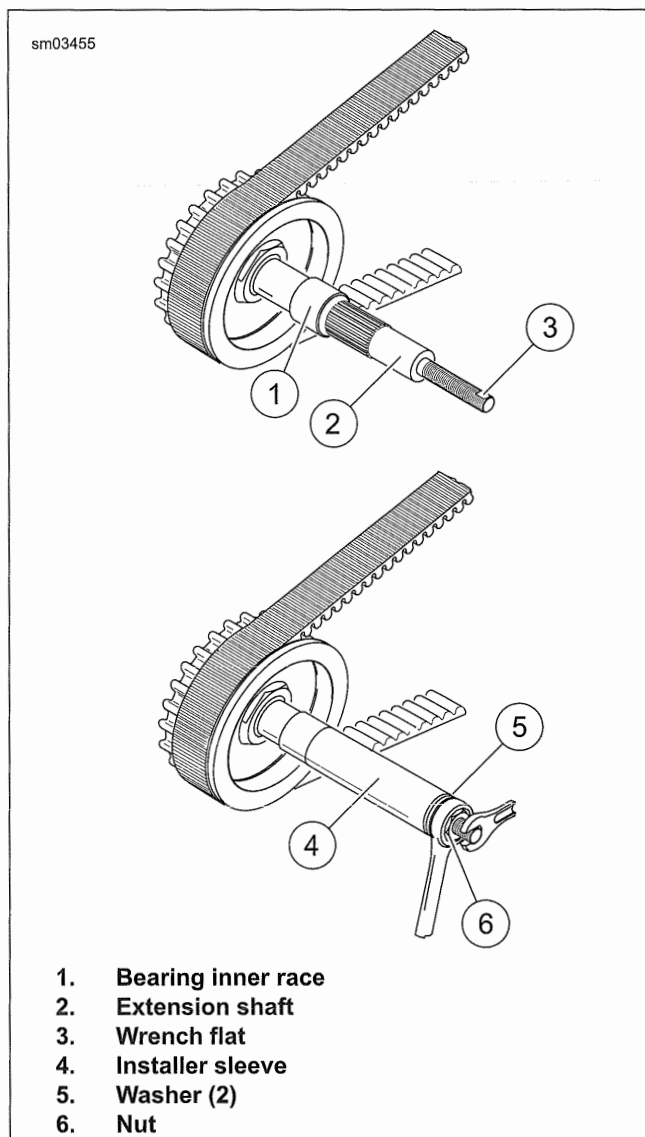

Figure 5-32. Installing Bearing Race
1. See Figure 5-32. Install bearing inner race (1) onto mainshaft using BEARING RACE REMOVER AND INSTALLER KIT (PART NUMBER: HD-34902-C).